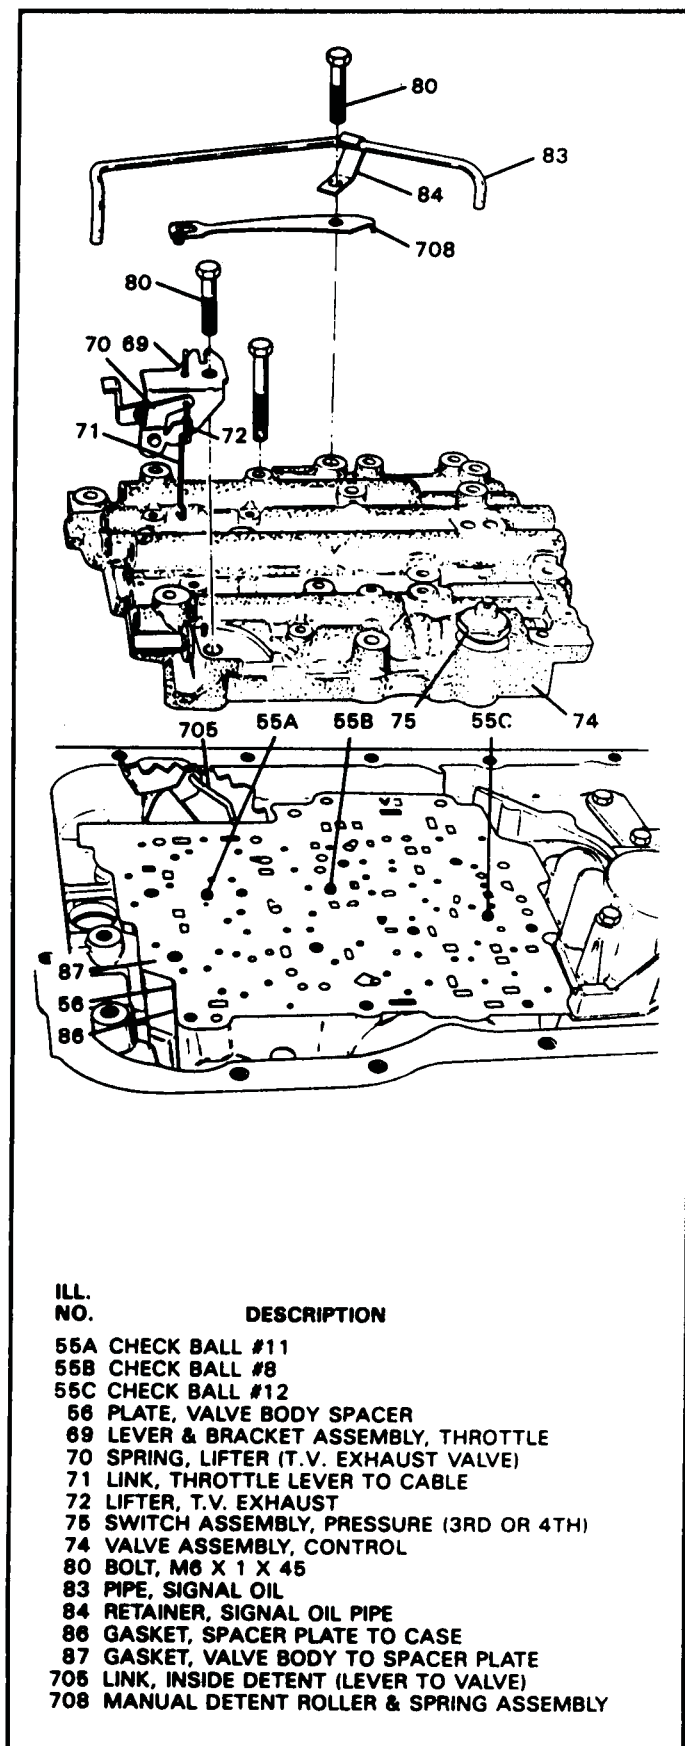

Figure 36
27. Remove the throttle lever and bracket assembly and throttle lever to cable link (See Figure 36).
28. Remove the manual detent roller and spring assembly, signal oil pipe retainer and the signal pipe as shown in Figure 36.
30. Remove the complete valve body assembly and manual valve, and set aside for rebuild, shown in Figure 36.
31. Remove the three checkballs from the spacer plate as shown in Figure 36.